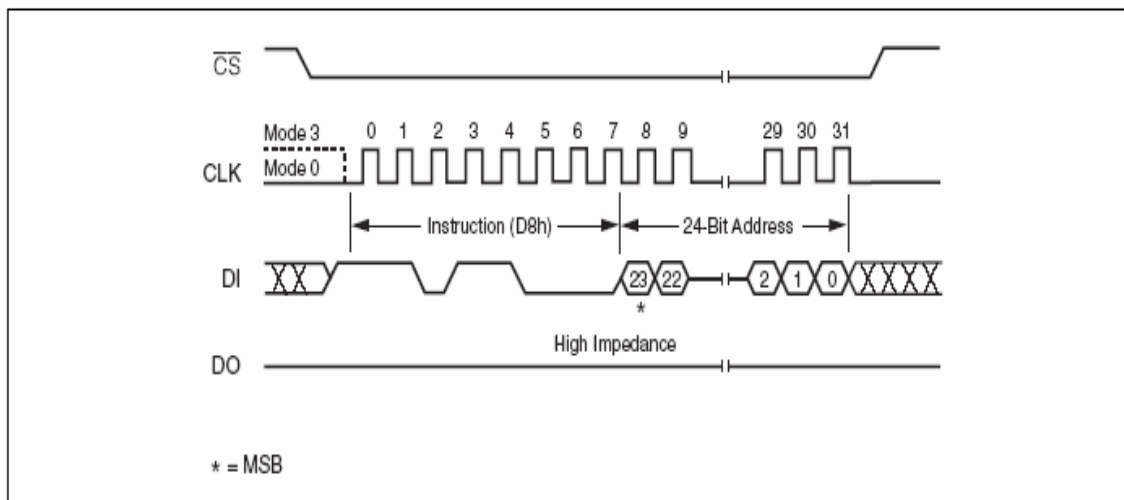

Figure 12. Sector Erase Instruction Sequence Diagram
The instruction sequence is shown in Figure 12.. Chip Select (CS#) must be driven High after the eighth bit of the last address byte has been latched in, otherwise the Sector Erase (SE) instruction is not executed. As soon as Chip Select (CS#) is driven High, the self-timed Sector Erase cycle (whose duration is t_{SE}) is initiated. While the Sector Erase cycle is in progress, the Status Register may be read to check the value of the Write In Progress (WIP) bit. The Write In Progress (WIP) bit is 1 during the self-timed Sector Erase cycle, and is 0 when it is completed. At some unspecified time before the cycle is completed, the Write Enable Latch (WEL) bit is reset.